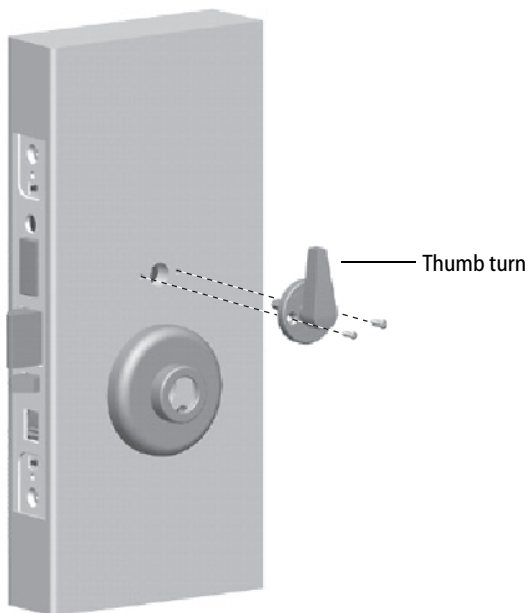

Figure 12 Installing the thumb turn or emergency access plate (not shown)
- 2 Install the thumb turn or emergency access plate using the two screws provided. See Figure 12.